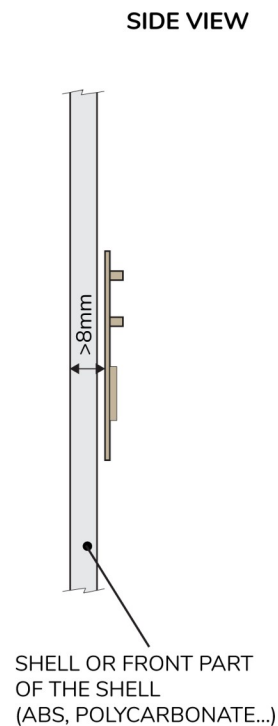

Figure 14
- Design the shell so a clearance of about 8mm is maintained between the card and the antenna. This enhance the interaction with poorly-tuned cards or with NFC smartphones that expose a significant static load to the base-station (*Figure 14*).